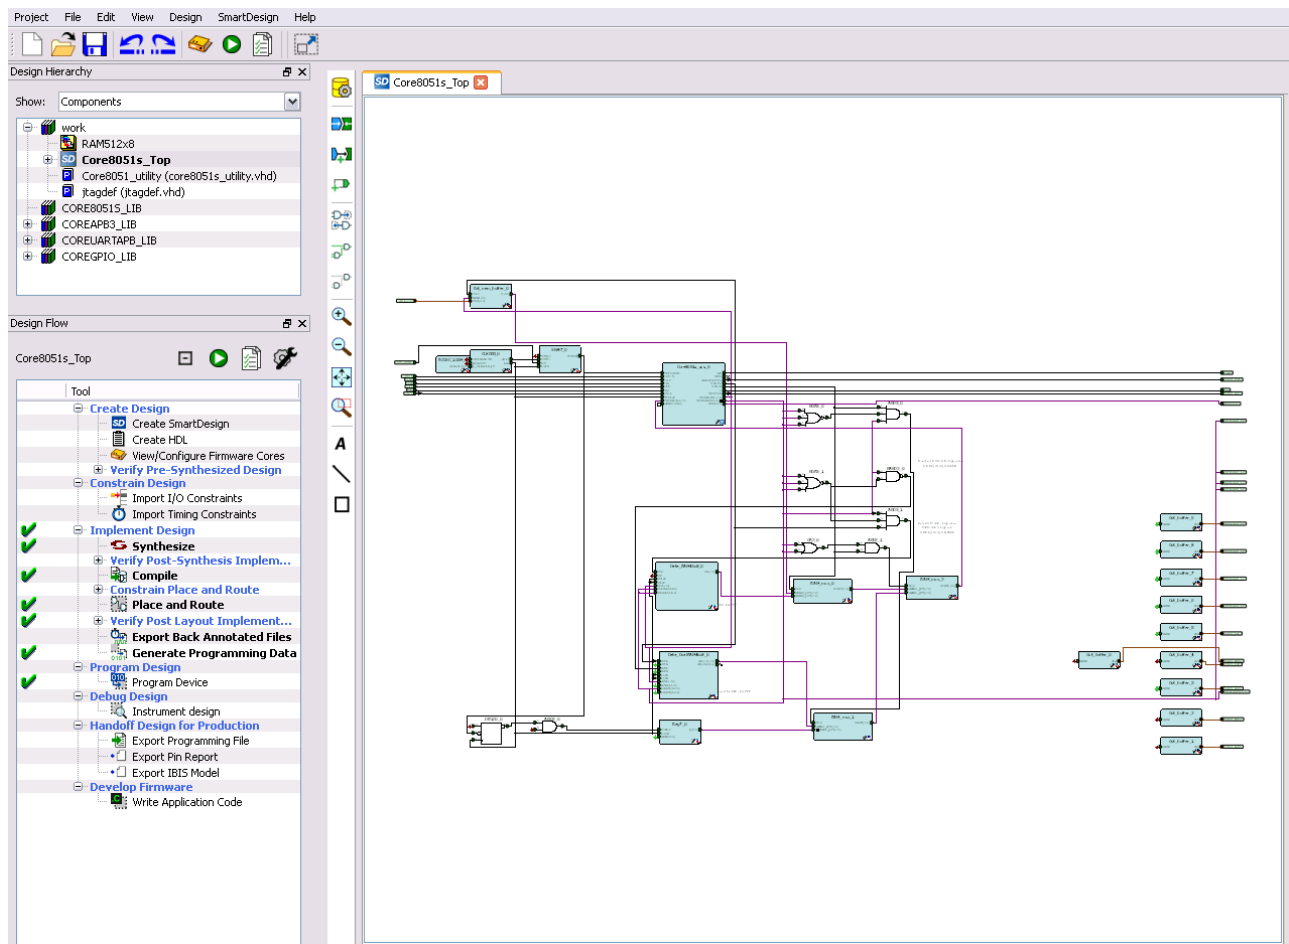

Figure 7 Top Level SmartDesign Window
7. The top level SmartDesign window is displayed, as shown in Figure 7.